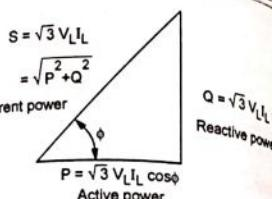

Fig. 4.11.1 Power triangle
- Hence power triangle is as shown in the Fig. 4.11.1.